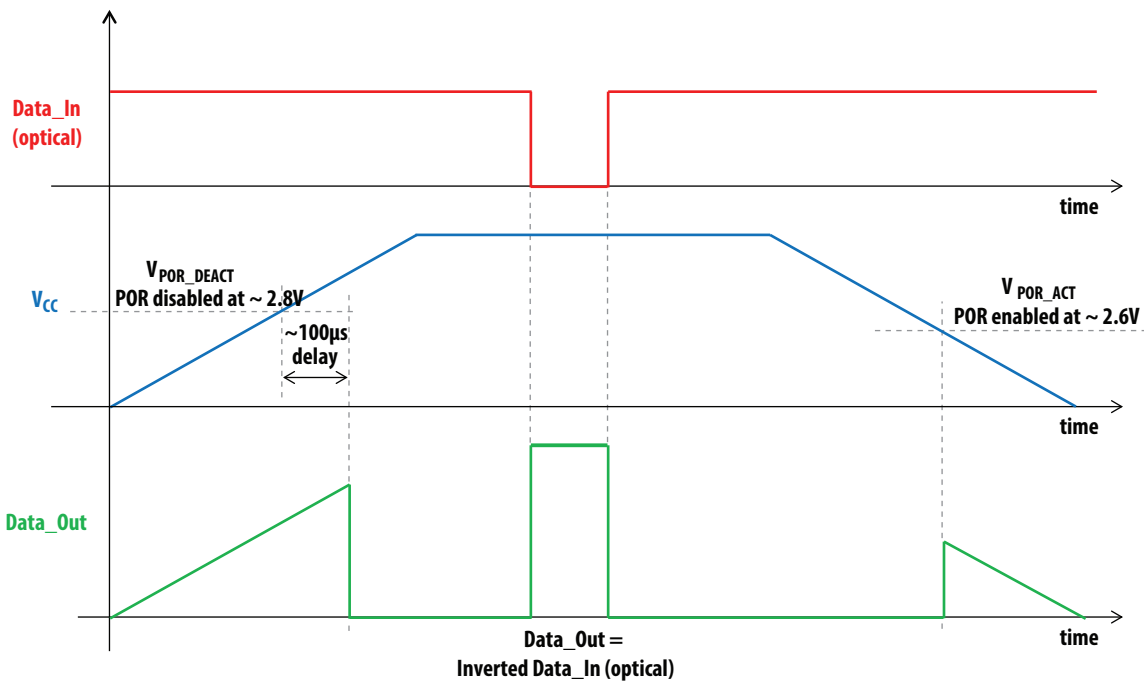

Figure 5. Typical functionality of Power-on reset (POR)
8. Power-on reset (POR) is active below V_{POR_DEACT} . Once V_{POR_DEACT} is reached the POR remains active for $t_{POR_DEACT_DEL}$. During power down POR starts at V_{POR_ACT} . Refer to figure 5 (next page).